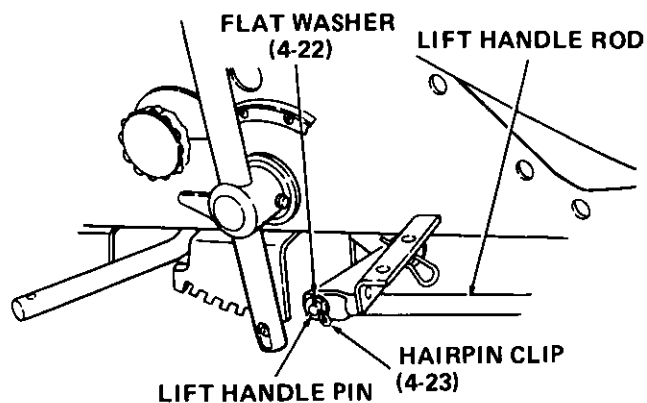

Figure 34
- c. FOR MANUAL LIFT GARDEN TRACTORS ONLY, adjust lift handle rod until hole in end of rod lines up with lift handle pin. Secure with flat washer (4-22) and hairpin clip (4-23). Refer to Figure 34.